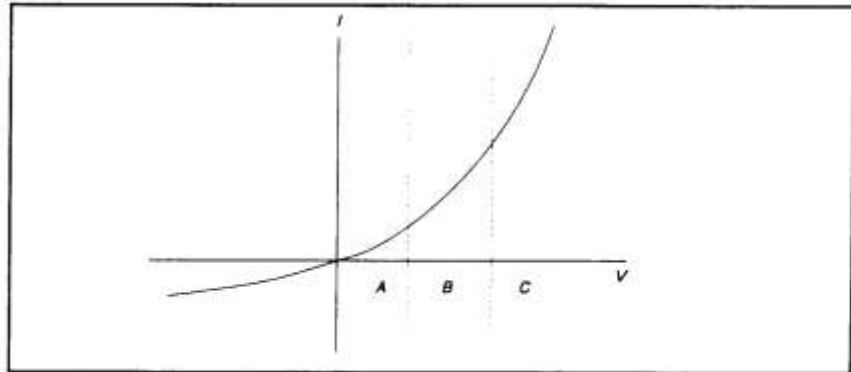

Figure 6-3.
An ideal diode response curve is plotted in Figure 6-3.
For accurate power measurements over all three regions illustrated in Figure 6-3, the detector response is pre-calibrated over the entire range. The calibration data is stored in the instrument and recalled to adjust each sample of the pulse power measurement.
**Signal Harmonics.** Measurement errors resulting from harmonics of the carrier frequency are level-dependent and cannot be calibrated out. In the square-law region of the detector response (Region A, Figure 6-3), the signal and second harmonic combine on a root mean square basis. The effects of harmonics on measurement accuracy in this region are relatively insignificant. However, in the linear region (Region C, Figure 6-3), the detector responds to the vector sum of the signal and harmonics. Depending on the relative amplitude and phase relationships between the harmonics and the fundamental, measurement accuracy may be significantly degraded. Errors caused by even-order harmonics can be reduced by using balanced diode detectors for the power sensor. This design responds to the peak-to-peak amplitude of the signal, which remains constant for any phase relationship between fundamental and even-order harmonics. Unfortunately, for odd-order harmonics, the peak-to-peak signal amplitude is sensitive to phasing, and balanced detectors provide no harmonic error improvement.